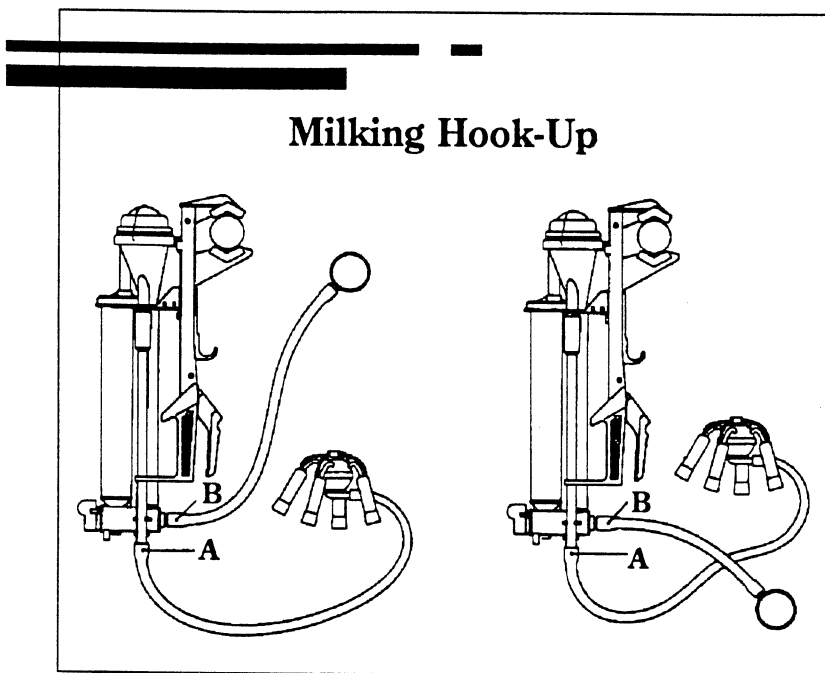

Figure 1
Figure 1: Attach a milk hose from the claw/cluster to the milk meter inlet tube (A). A second milk hose should be attached from the milk meter outlet (B) to the milk line.